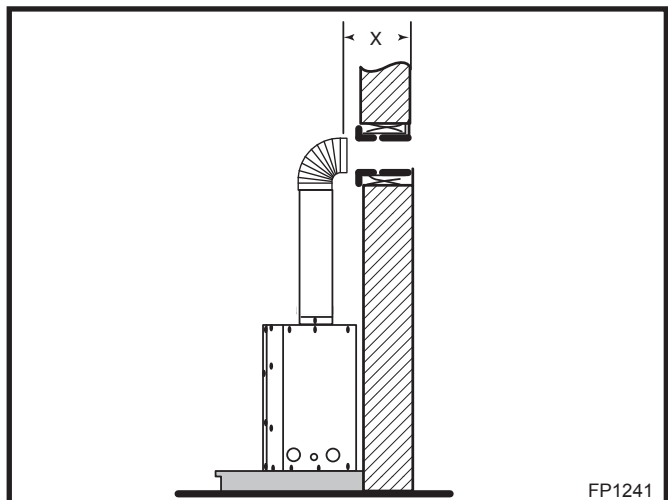

Fig. 23 Horizontal length requirement.
Attach the appropriate venting component(s) to the inner and outer flue collars of the fireplace using three (3) screws. (Fig. 23) Follow with the installation of the inner and outer elbow. Again secure joints with three (3) sheet metal screws.
Measure the horizontal length requirement including a 2" (51 mm) overlap, ie from the elbow to the outside wall face plus 2" (51 mm) (or the distance required if installing a second 90° elbow). (Fig. 23)